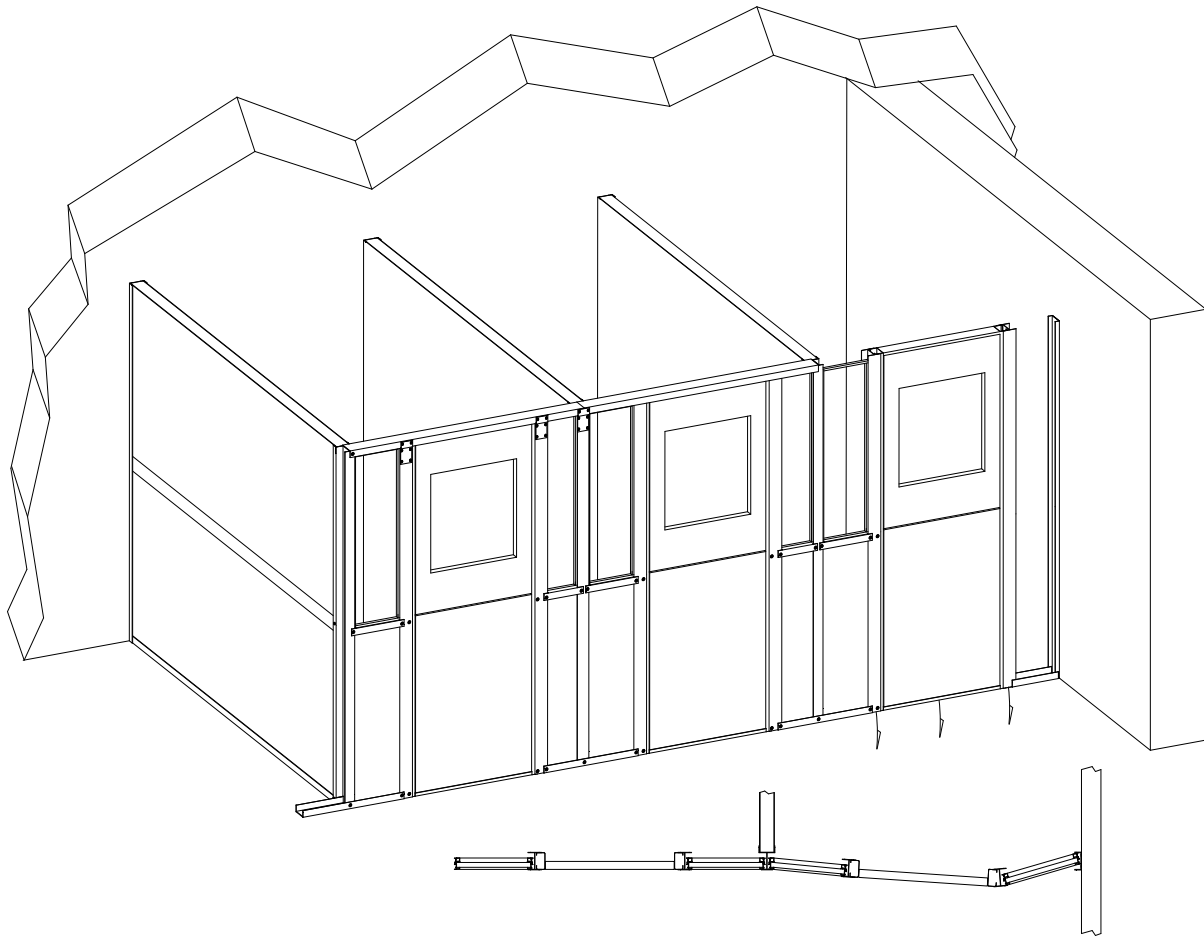

Figure 40
26. Systems ending on a side wall require securing an “A” channel to the wall before the filler panel and glass window on that side of the door are installed. The door and the filler panels and the two horizontal “A” channels can be angled outward to allow the parts to fit into the proper extrusions. See figure 40.